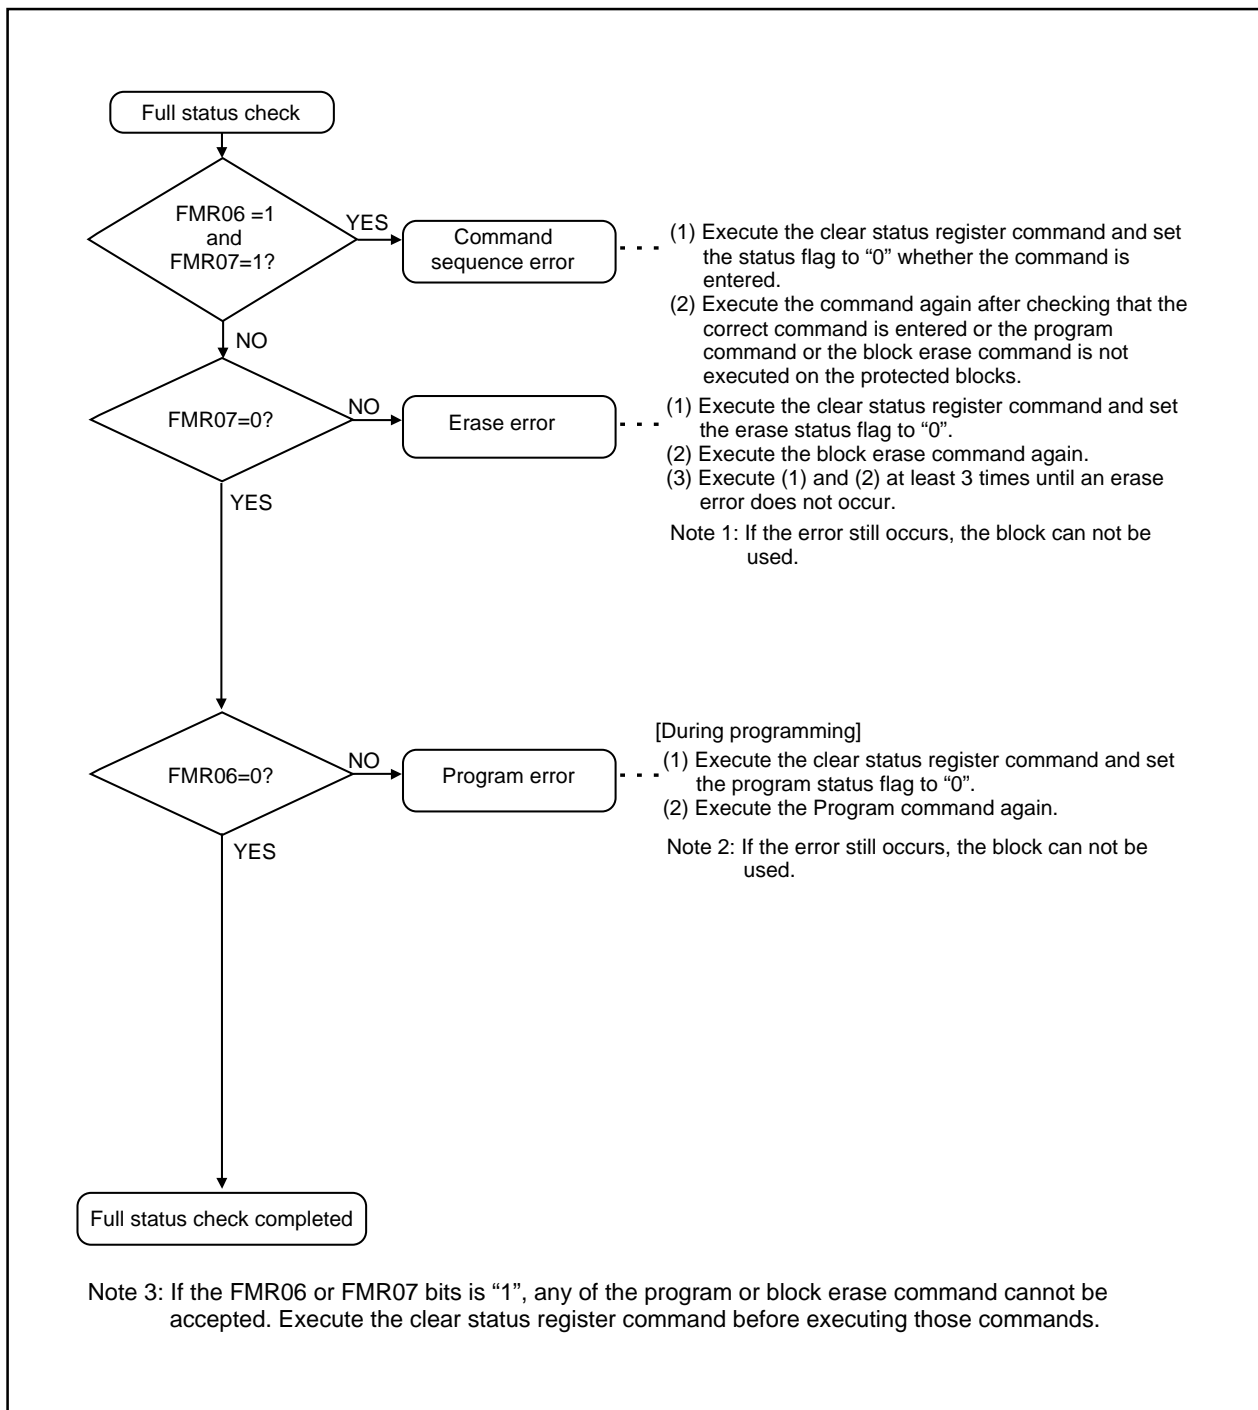

Figure 18.15 Full Status Check and Handling Procedure for Each Error
4. Refer to **Figure 18.15**.
Table 18.7 lists errors and FMR0 register state. **Figure 18.15** shows a flow chart of the full status check and handling procedure for each error.